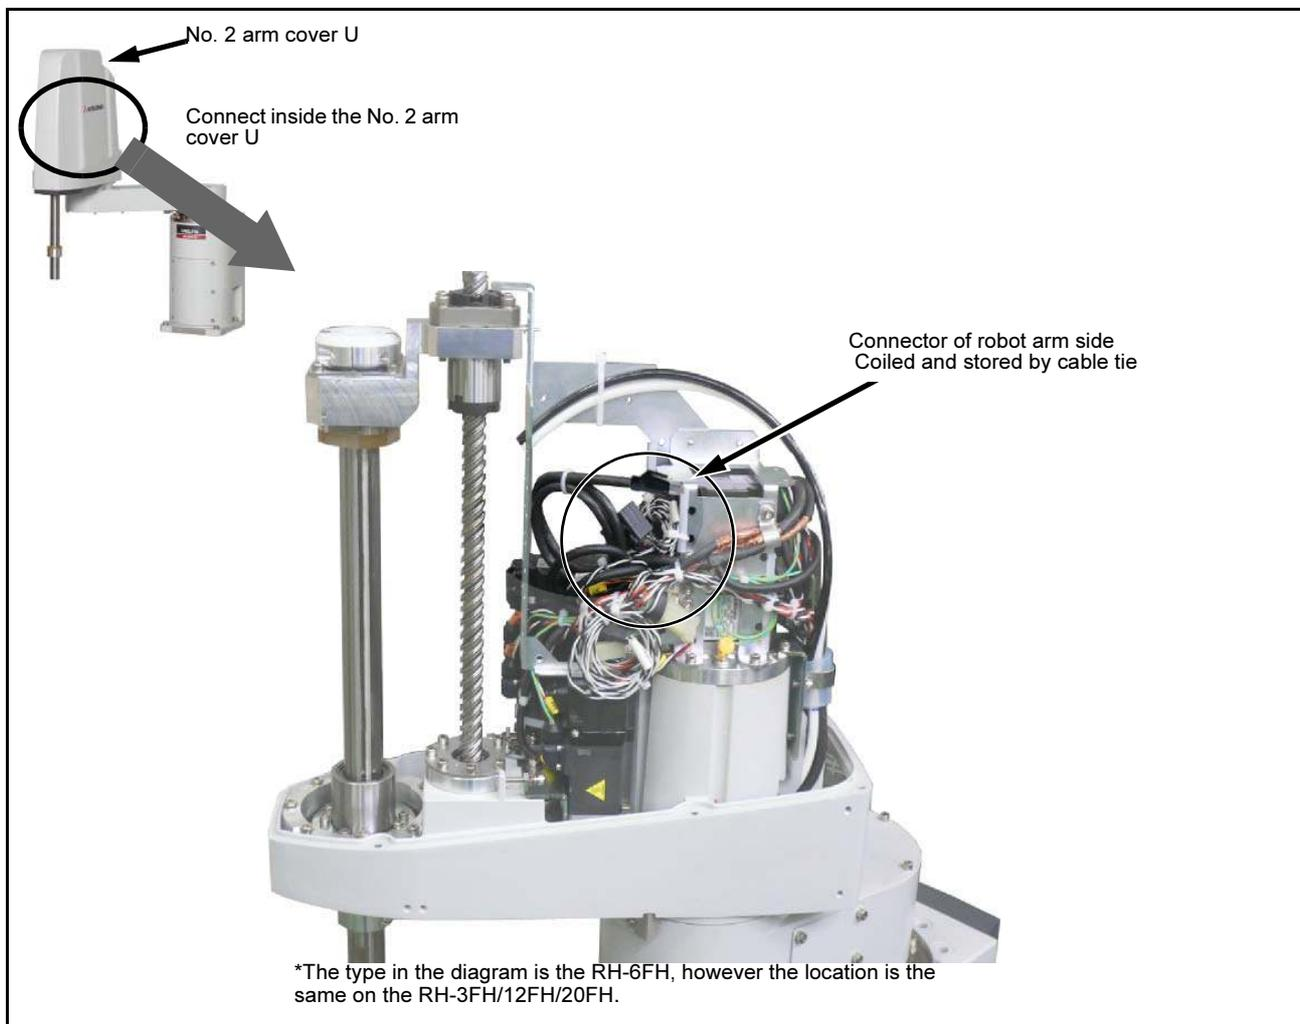

Fig.3-4 : Installing the hand output cable
Fig. 3-4 shows the hand output cable's storage location on the robot.
- 2) The hand output cable is stored in the location shown in Fig. 3-4. Remove cable tie, and check the connectors (GR1, GR2).